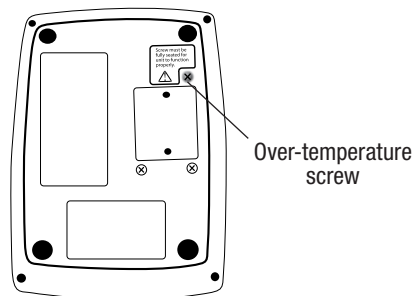

Fig. 3: Ranger warming unit over-temperature screw
- Loosen the over-temperature screw on the bottom of the Ranger warming unit (see Fig. 3). Listen for a slight click as the microswitch opens. **Loosen ½ turn more.** This unit is now in over-temperature test mode, and the temperature output of the unit should begin to rise. When the Ranger display reads 43°C, verify that an audible alert sounds, the alert light illuminates, and the display alternately flashes “HI” and the plate temperature.